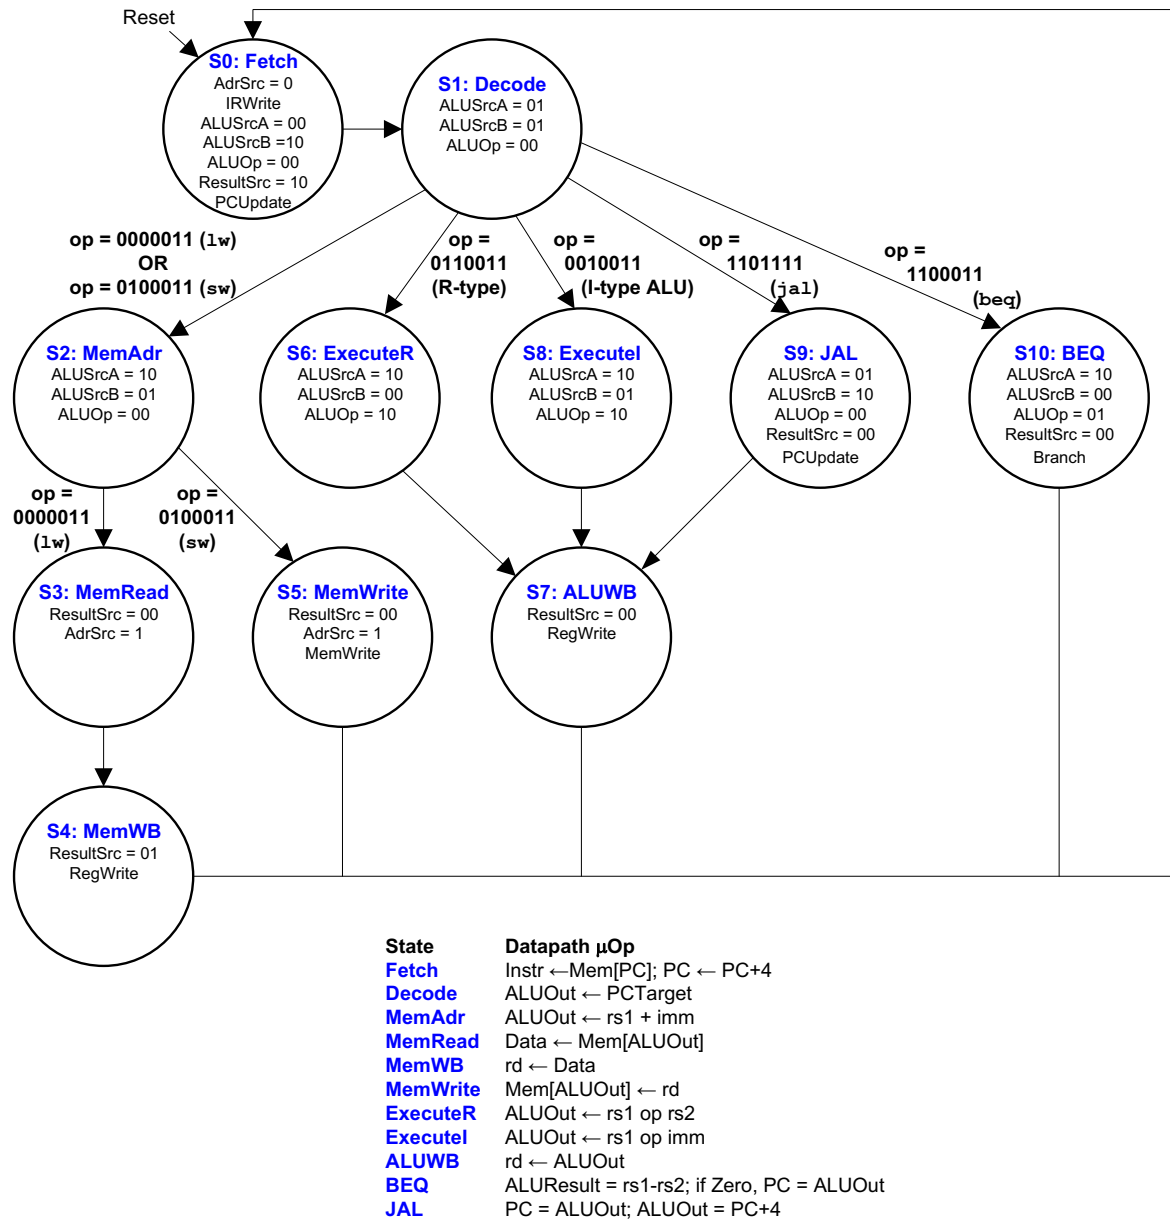

Fig 2. Complete multicycle control Main FSM state diagram
- Figure 2 shows the multicycle control Main FSM state diagram